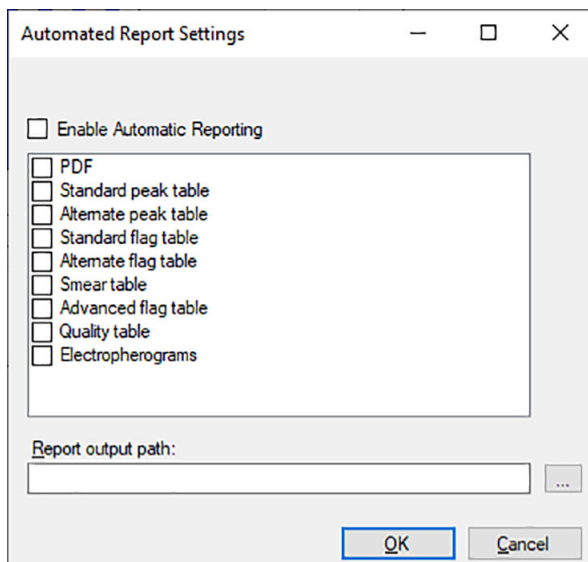

Figure 92 Automated Report Settings window
This will open the **Automated Report Settings** window (Figure 92).
- 2 To enable automated analysis, select **Enable Automatic Reporting** (Figure 92).